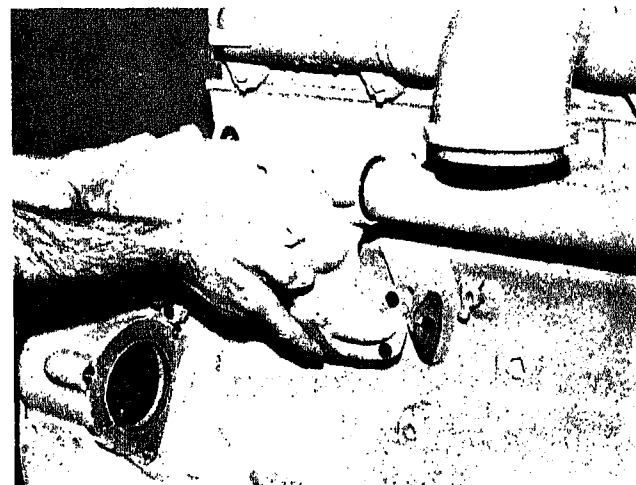

Fig. 0-23. Removing oil cooler assembly
2. Remove capscrews and lockwashers securing cooler housing and cover assembly to block; remove cooler assembly and gaskets from engine, Fig. 0-23; discard gaskets.